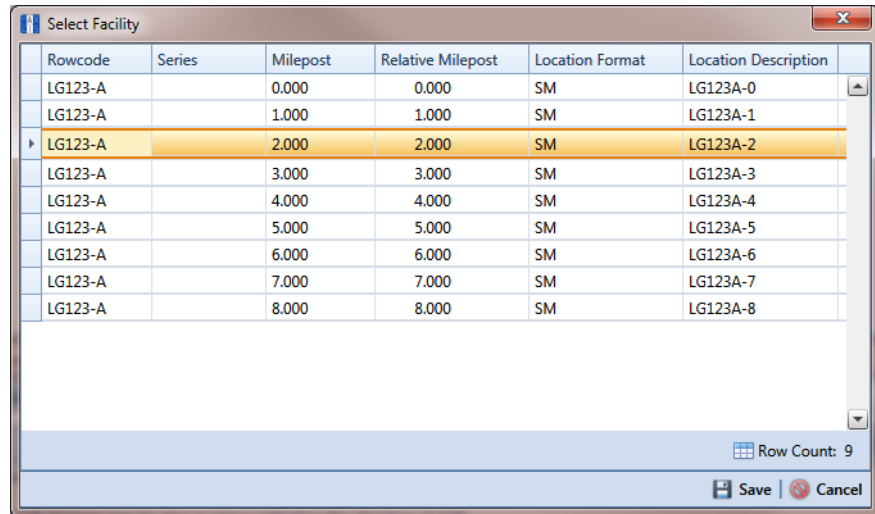

Figure 7-80. Select Facility
- b Type a facility location in the **Shift To Facility** field or select one in the *Select Facility* dialog box. To select a facility location, click  **Find** to open the *Select Facility* dialog box and select a facility in the grid. Then click  **Save** (Figure 7-80).